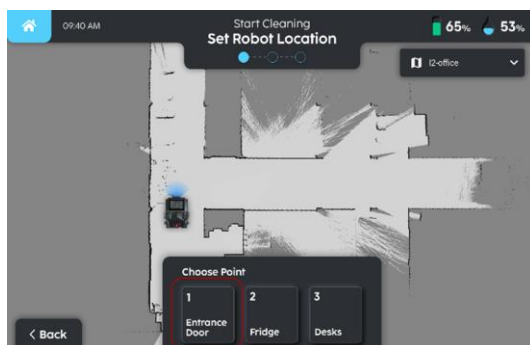
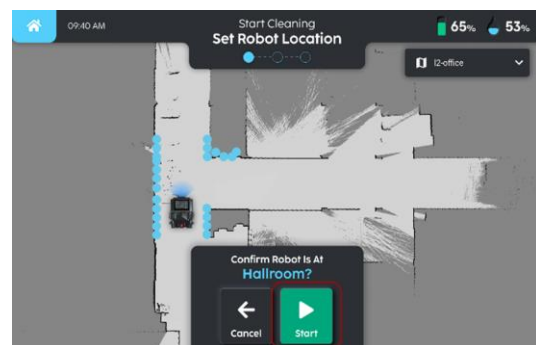

FIGURE 5-2
FIGURE 5-3
1. Set robot's location on the map (Fig. 5-2) and select 'START' (Fig 5-3).